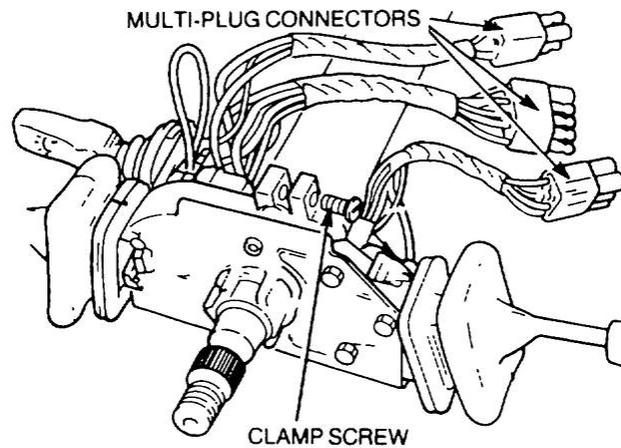

Figure 137 Removal of the Switch Cluster
- h. Disconnect the multi-plug connectors from the switches and remove the clamp screw securing the switch cluster to the steering column (Figure 137). Remove the cluster.